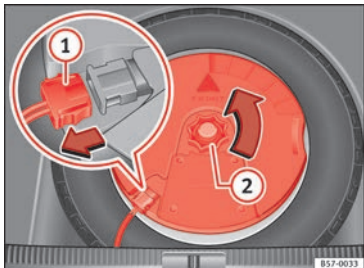

Fig. 249 In the luggage compartment: remove the *subwoofer*.
- Disconnect the *subwoofer's* speaker cable »» **Fig. 249 ①**.
- Turn the securing wheel in an anti-clockwise direction **②**.